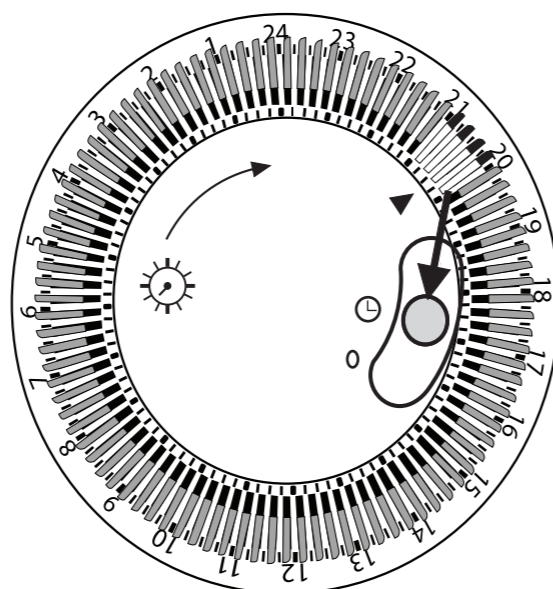

Fig 2
3. Move the timer switch to symbol "⊙" to enable the timer (Fig 2).